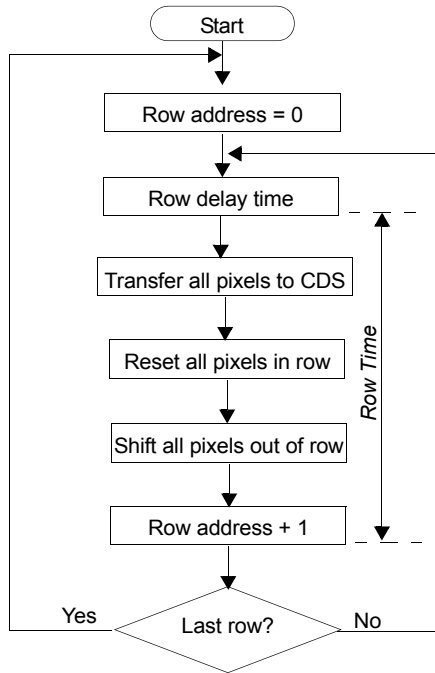

Figure 20. Frame Readout Flow Diagram
A frame is defined as the time it takes to reset every pixel in the array, integrate the incident light, convert it to digital data and present it on the digital video port. This is not a concurrent process and is characterized in a series of events each needing a certain amount of time as shown in Figure 20.
*Ropcycle* is a fixed integer value of 780 representing the *Row Operation Cycle Time* in multiples of *Hclk* clock cycles. It is the time required to carry out all fixed row operations outlined in Figure 20.